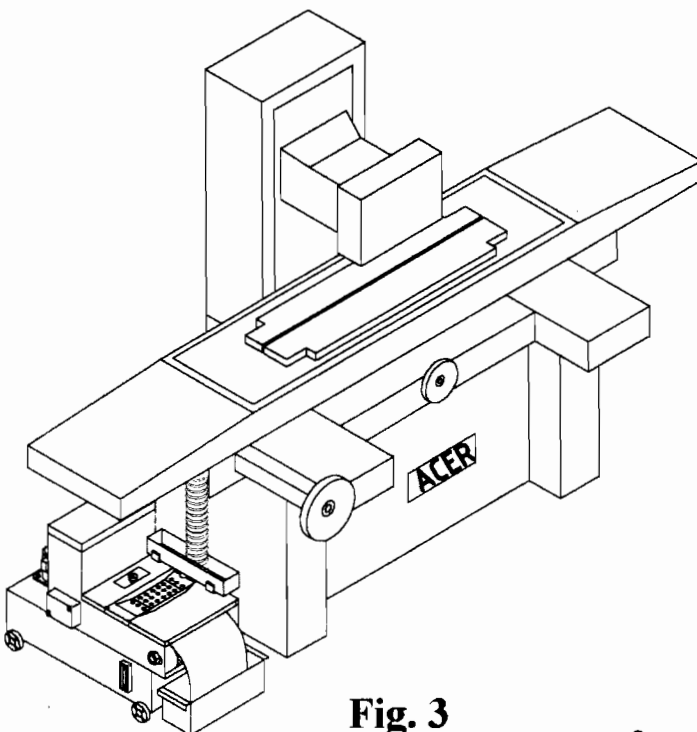

Fig. 3
1. The coolant system is usually located at the left side of the machine as show in figure 3. First, please connect the hose of coolant pump to the steel pipe on the side of wheel guard or at the lower right hand side of column. Then connect the power cable of the coolant pump to the plug or to the terminals-U5, V5, W5 in the electric cabinet.